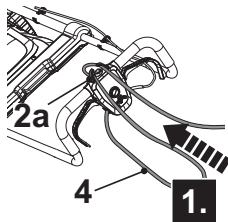

Fig. 8
1. Double the power cord (4) back, about 60 cm from the power guard and lead the loop through the slots of cord retainer (2a) (Fig. 8).